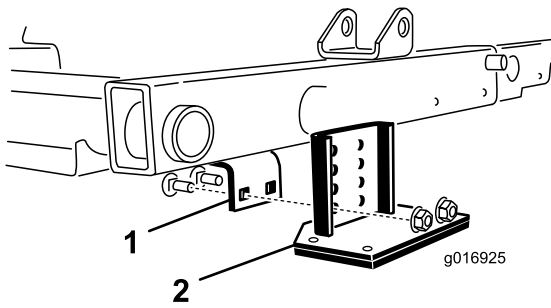

Figure 30
2. Locate the frame bracket above the center cutting unit (Figure 30).
3. While pressing down on the front roller of the center cutting unit, determine which holes on the tipper bracket align with the frame bracket holes to attain the same roller contact when the tipper bracket is installed (Figure 30).
4. Lower the cutting units and mount the tipper bracket to the frame with the (2) carriage bolts and nuts supplied with the kit (Figure 30).